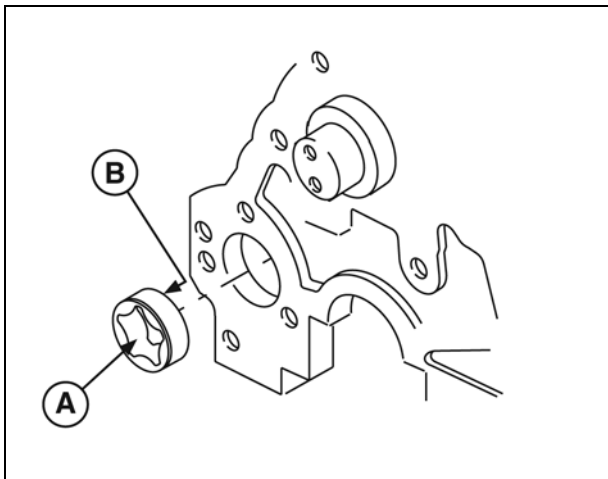

Figure 10
1. Lubricate oil pump rotor (**A**, Figure 10) with engine oil and install in cylinder block.